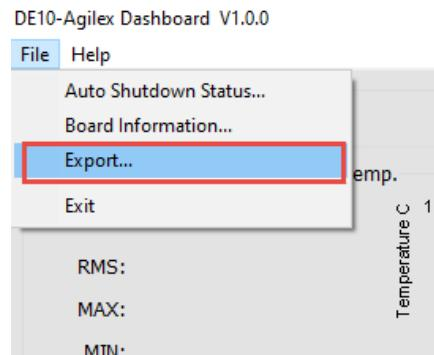
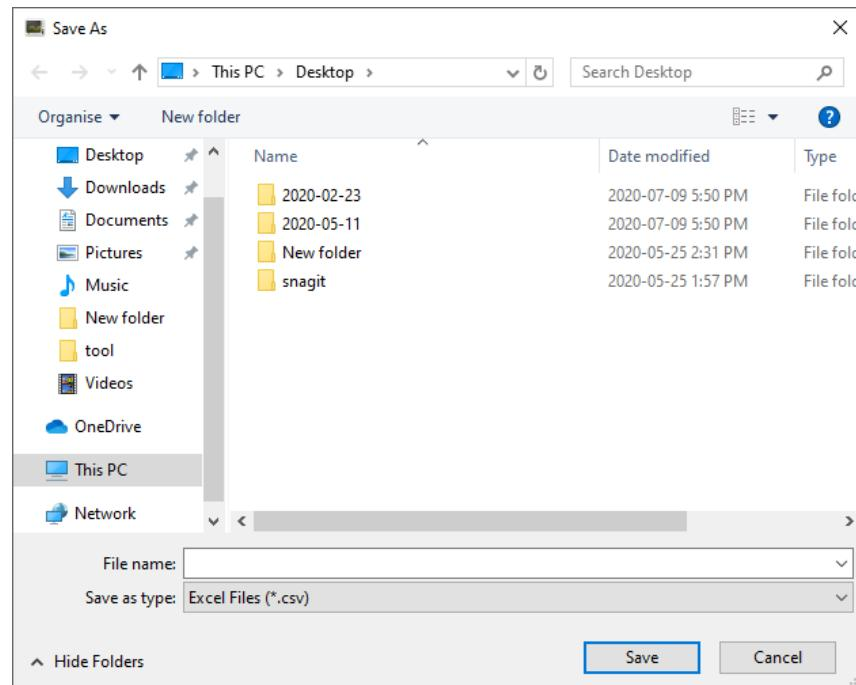

Figure 10-21 Export the log file
Figure 10-22 Export the log file in .csv format
- **Log File:** Click the Export in the File page to save the board temperature, fan speed and voltage data in .csv format document, as shown in **Figure 10-21** and Figure 10-22.